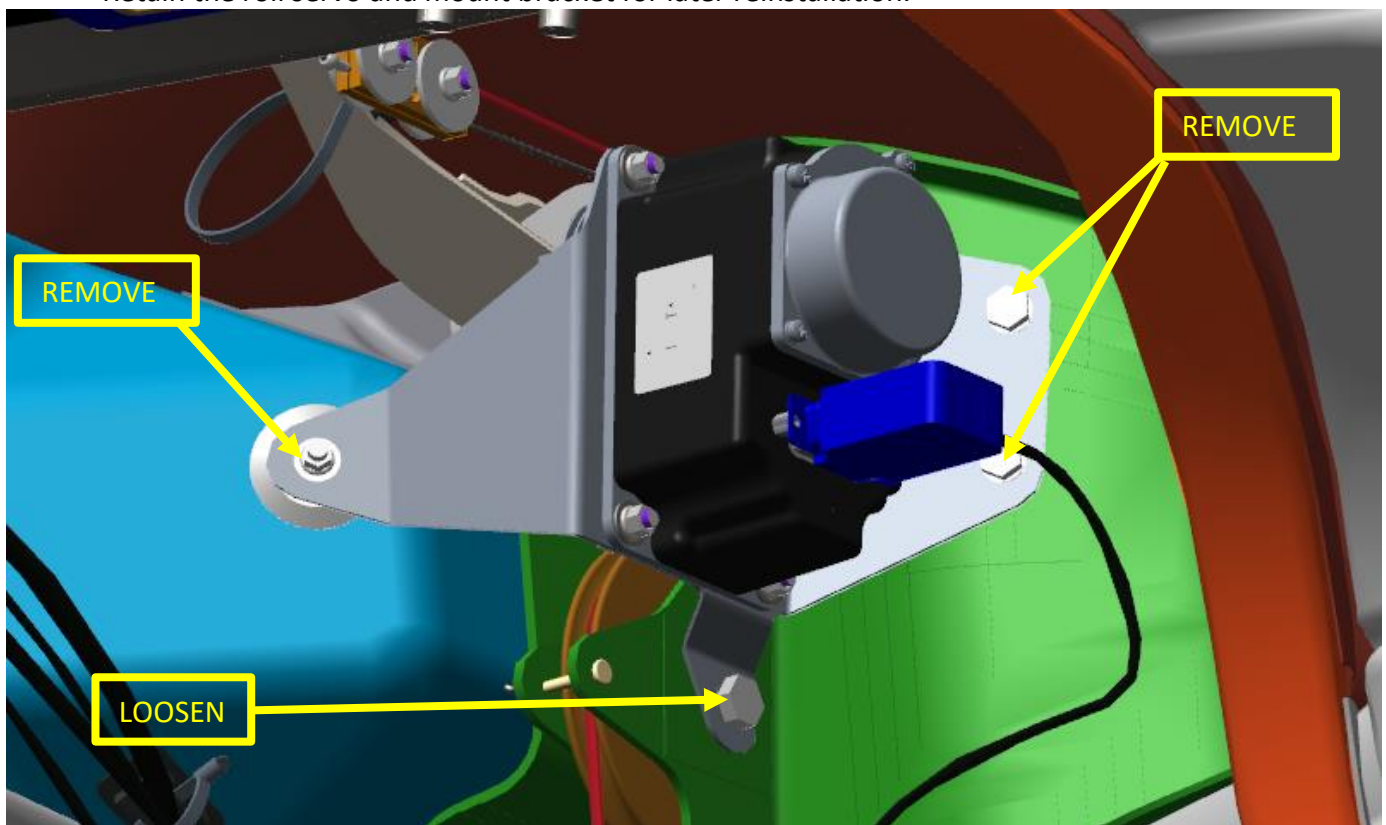

Figure 3: Loosen and Remove hardware
10. Remove the 2 bolts that secure the roll servo bracket to the left-hand center wing root rib. Retain hardware for reinstallation. See **Figure 3**.
11. Remove the nut and washer that secure the roll servo bracket to the stud bonded to the center wing spar. Retain hardware for reinstallation. See **Figure 3**.
12. Loosen the nut and bolt securing the upper roll cable pulley just enough so that the roll servo and the mount bracket can be removed as the bracket is slotted in this location. See **Figure 3**. Retain the roll servo and mount bracket for later reinstallation.